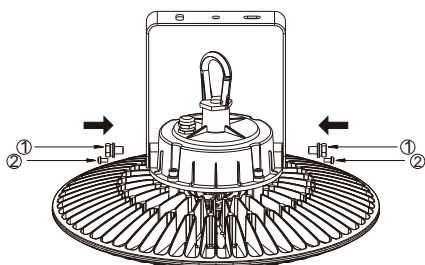

Fig. 1
1. Add the U-bracket to the driver and fix it with accessories 1 and 2 shown above. **(Figure 1).**